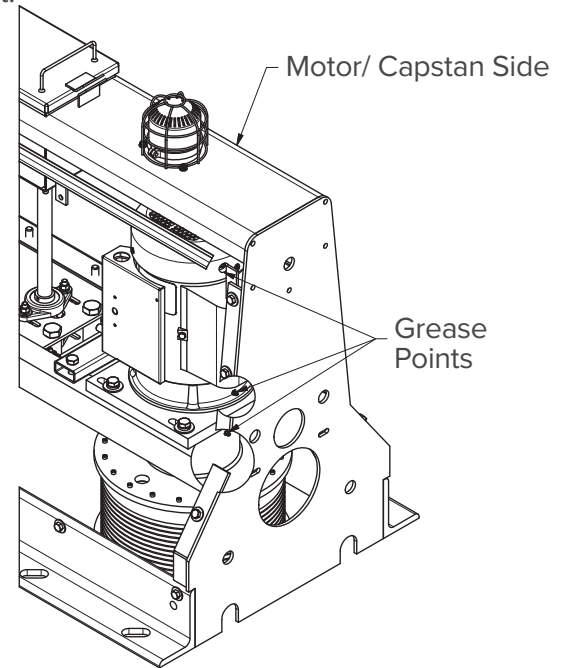

Figure 29
2. Lubricate all Capstan Drive grease fittings (Figure 29) every 6 months, or 750 cycles, whichever comes first. Do not allow grease to spill on drive or driven drums.